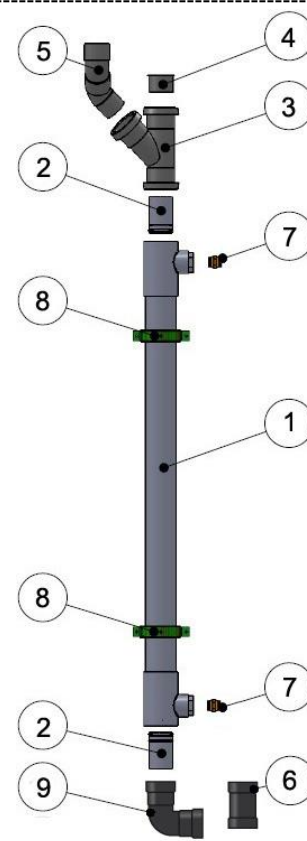

Fig. 3. Component arrangement.
4. Attach the waste water connections (Part No's 2,3,4,5 & 6 or 9), as shown in figure 3 (These are all Push-fit waste connections).
Additional access (Through normal use this should not be required) should be obtainable with a pipe cleaning brush either via the shower/bath trap (or by removing the cap, Part 4 in Figure 3, if there is access). Once cleaned rinse through with warm water from the shower.